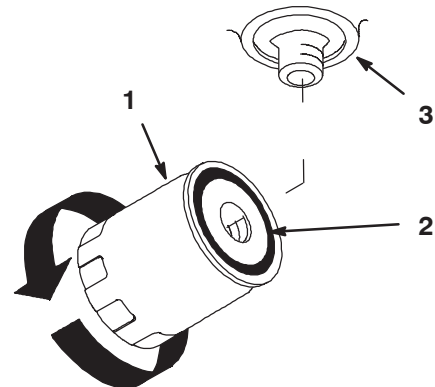

Figure 39
4. Apply a thin coat hydro fluid to the rubber gasket on the replacement filter (Fig. 39).
7. When fluid overflows filter turn the oil filter clockwise until the rubber gasket contacts the filter adapter, then tighten the filter an additional 1/2 turn (Fig. 39).